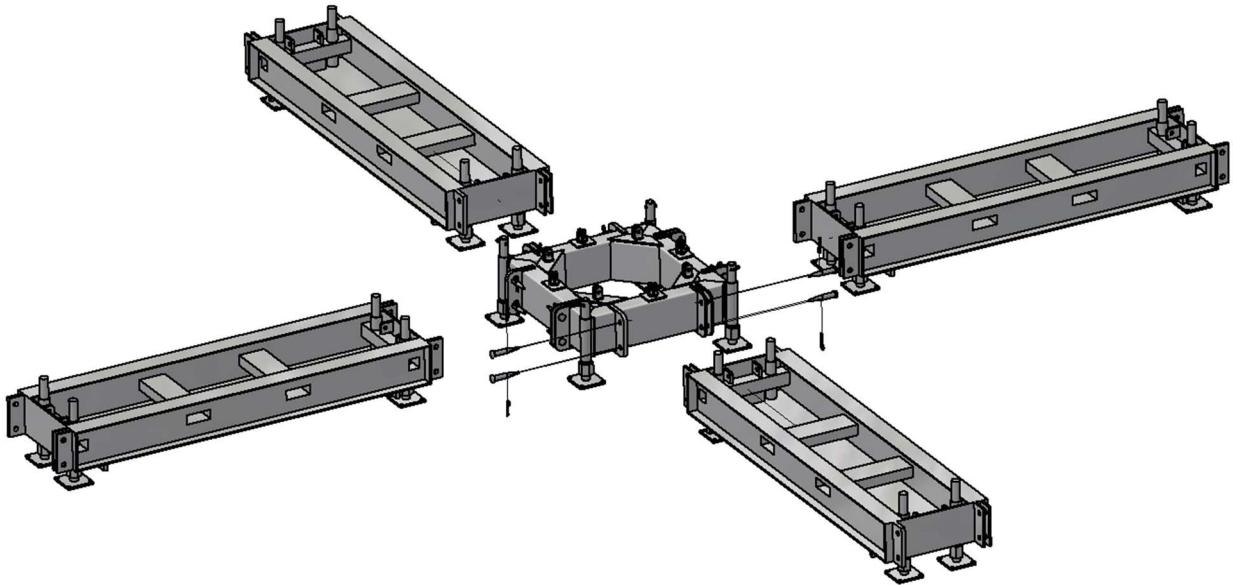

Figure 5: Connecting the outriggers
- 3.c) Insert the pins and R-clips, as shown in Figure 5.